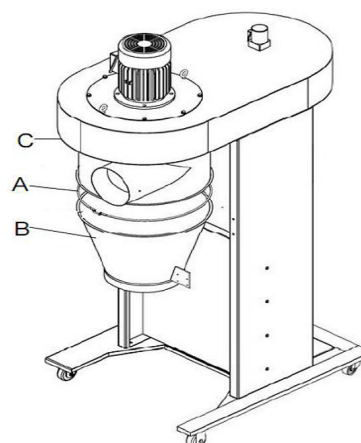

Fig. 8: Fasten cyclone funnel
**Step 8:** Attach the cyclone funnel (B, Fig.8) to the housing (C, Fig.8) with a clamp (A, Fig.8).